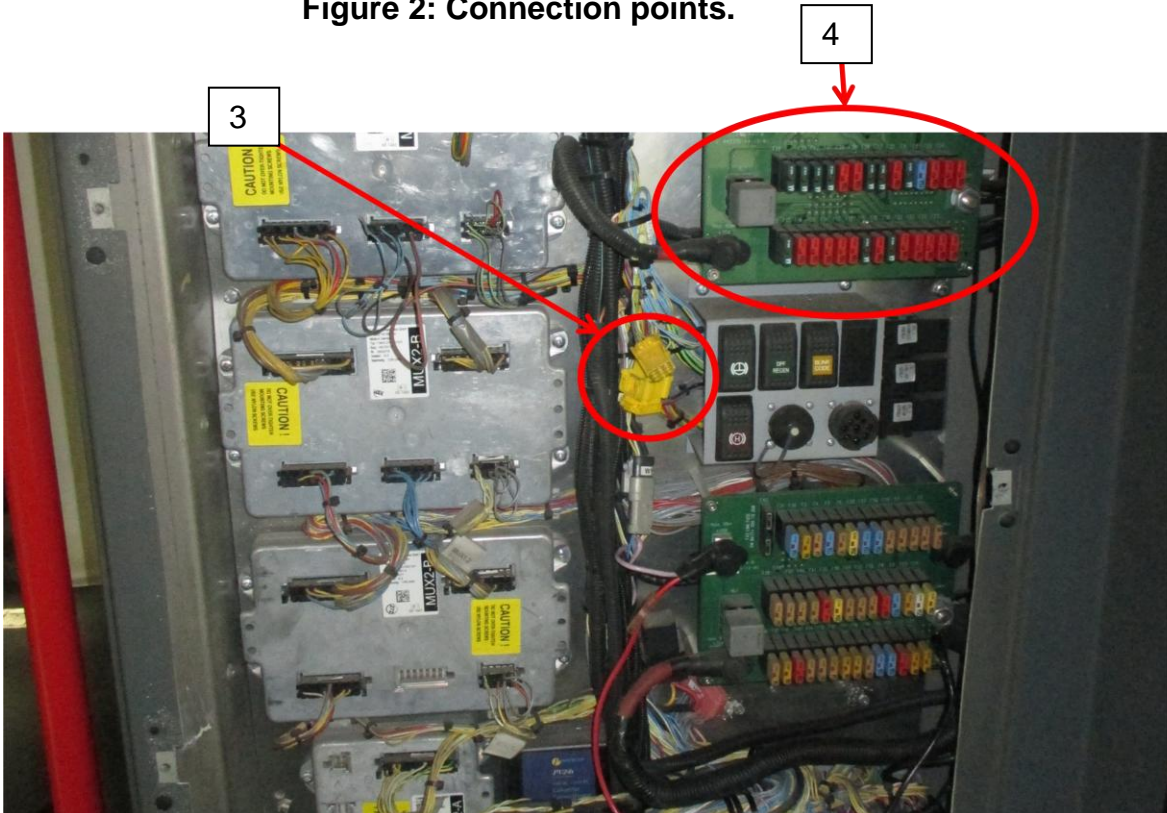

Figure 3: Connection points.
- c. Unhook Yellow Connector JD1. Refer to Figure 3 item 3.
- d. From Chassis PCB Board, unhook 3 ground cables at right of board and power cables C3000 and 4547931. Refer to Figure 3 item 4.